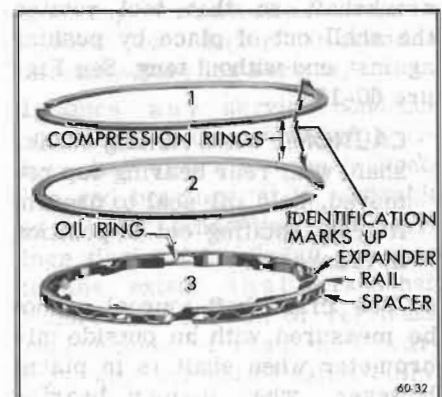

Figure 60-127—Piston Rings
7. Remove compression rings. Remove expander and oil ring by removing the two rails and spacer-expander. See Figure 60-127.